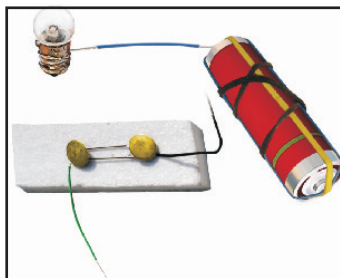

Fig 12.13
6. Would the bulb glow after completing the circuit shown in Fig. 12.13 if instead of safety pin we use an eraser?